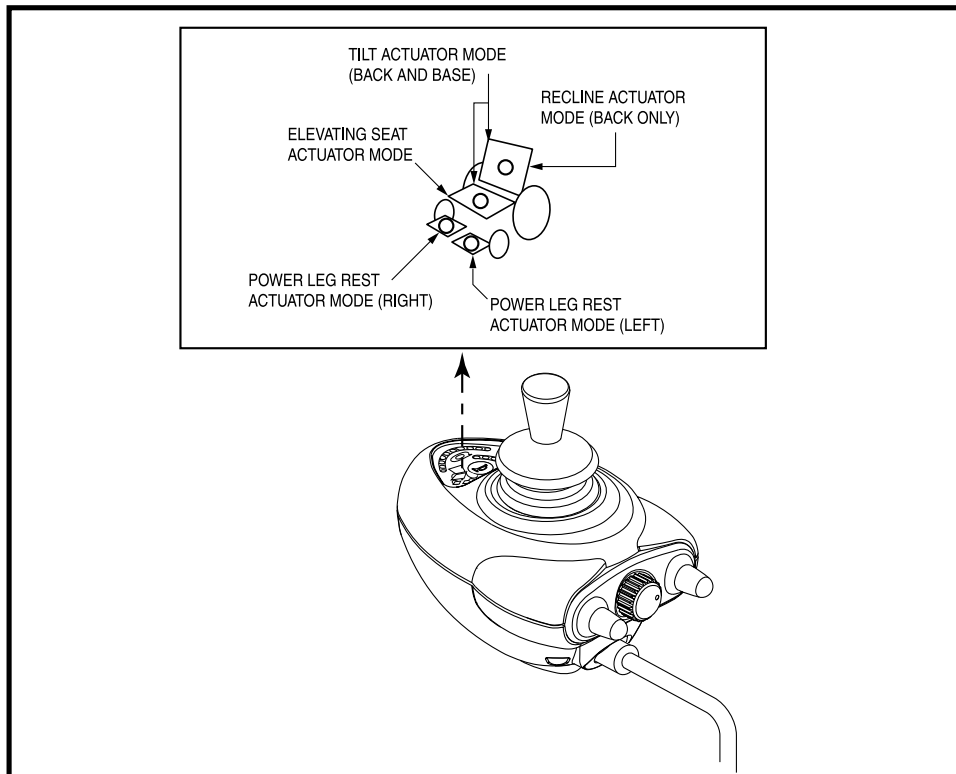

Figure 5. Actuator Indicators
3. Push the joystick to the right to cycle through the available actuators. The actuator indicator will display which actuator is activated. See figure 5.